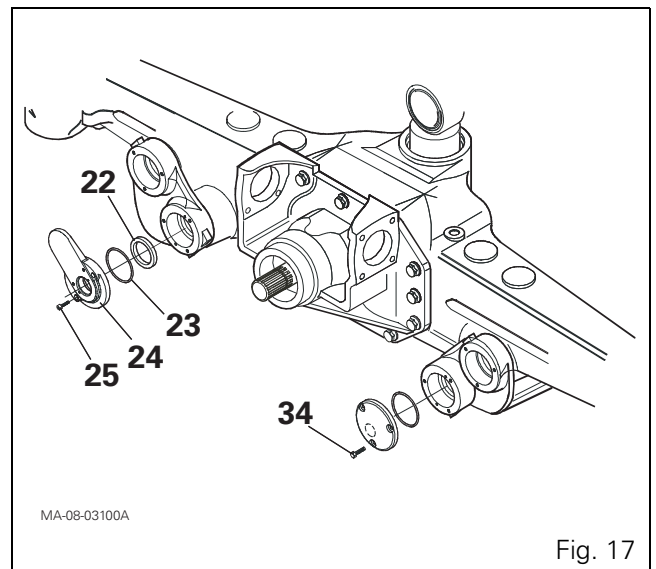

Fig. 17
- 17.** Fit seal (22) using tool ref. CA715345 (see § C) (Fig. 17). Fit new "O" rings (23) on all covers.